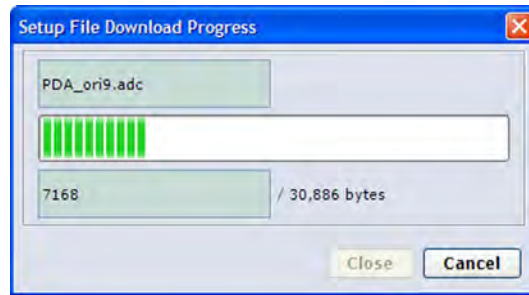

Figure 44 Setup File Download Progress View
3. Downloading the setup file from the QML logger starts; you can follow the download process in the window displayed (see Figure 44 on page 84).